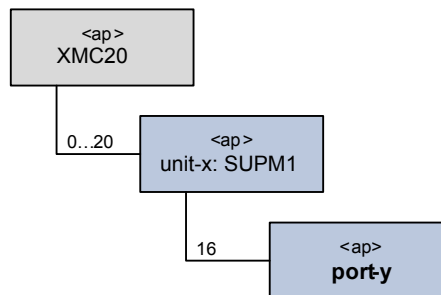

Figure 20: MOM (managed object model) of the SUPM1 unit
The Figure 20 "MOM \(managed object model\) of the SUPM1 unit" shows the access point (AP) tree for the SUPM1 unit with its managed objects: